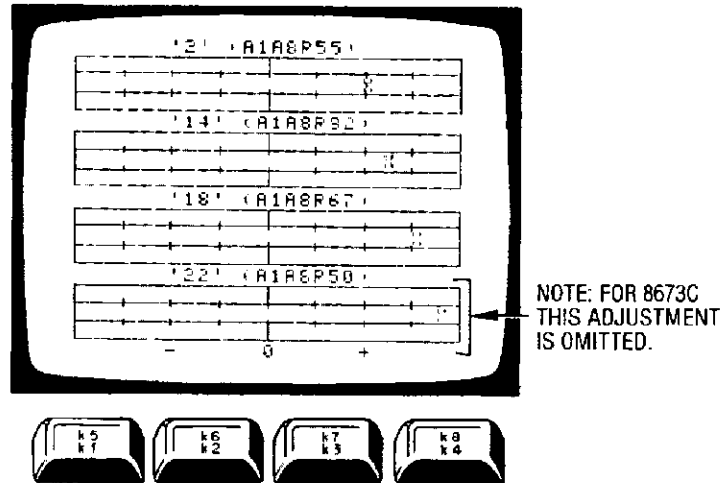

Figure 5-39. Flatness Adjustment
- Three or four axes for the HP 8673C and HP 8673D respectively, representing the slope adjustment for each flatness region, are drawn on the controller screen (see figure 5-39). The center